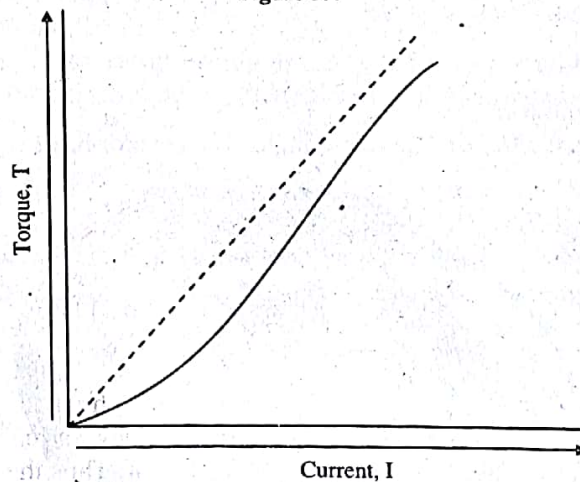

Figure 3.5
- 3) **Torque Current Characteristics:** After neglecting the small value of phase angle (angle between the flux and the current) and saturation effect we can say that the value of the torque is directly proportion to the value of square of the current. Therefore the variation of torque with the current can plotted as shown in the **figure 3.5**: